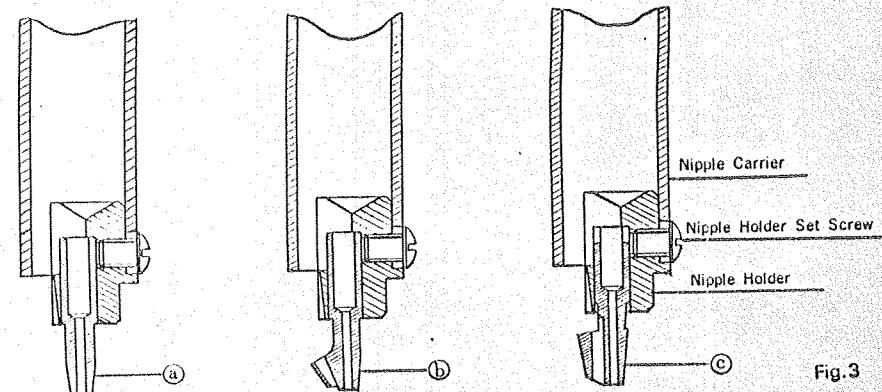

Fig. 3
5. NEEDLES, NIPPLES AND THREAD (Fig. 3)
The nipples for TREASURE ES-1114-10 are available in the following kinds, as per Fig. 3.
Next, insert the selected nipple ⑩ into the lower part of nipple holder ⑨ and tighten screw securely with the screwdriver. Insert the nipple holder ⑨ into the nipple carrier (Fig. 3) and tighten screw securely. Screw selected needle into needle bar ⑧ and tighten with pliers provided. Replace needle bar ⑧ down into sleeve and adjust its height so that the fabric to be embroidered can just pass under the point of the needle.